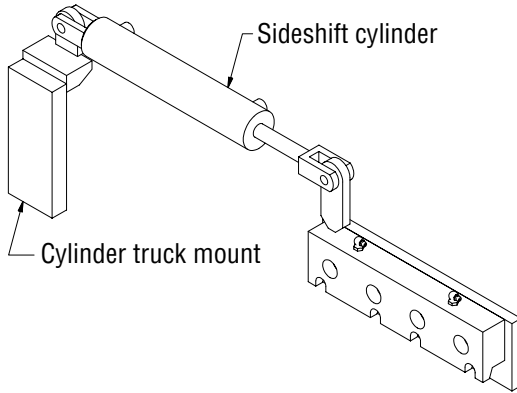

Figure 3-1, Sideshift Installation
5. Keeping the cylinder horizontal, locate position of the cylinder truck mount. (Figure 3-1)